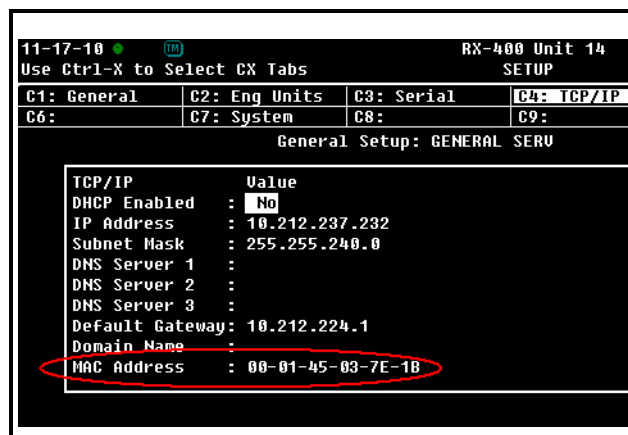

Figure 3-20 - TCP/IP Screen - Locating the Mac Address
3. Press **#3** (TCP/IP Setup) to open the TCP/IP Setup screen and locate your E2's MAC address (circled in *Figure 3-20*):